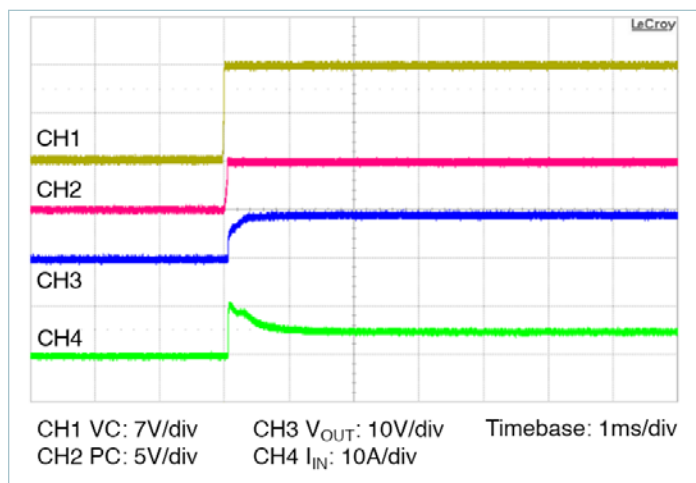

Figure 14 — Start up from application of V_C ; V_{IN} pre-applied $C_{OUT} = 1600\mu\text{F}$
- **Stand-alone operation (VC applied after V_{IN}):** In this case the VTM output will begin to rise upon the application of the VC voltage (See Figure 14). The Adaptive Soft-Start Circuit may vary the output rate of rise in order to limit the inrush current to its maximum level. When starting into high capacitance or a short, the output current will be limited for a maximum of 1200μs. After this period, the Adaptive Soft-Start Circuit will time out and the VTM module may shut down. No restart will be attempted until VC is re-applied or PC is toggled. The maximum output capacitance is limited to 1600μF in this mode of operation to ensure a successful start.